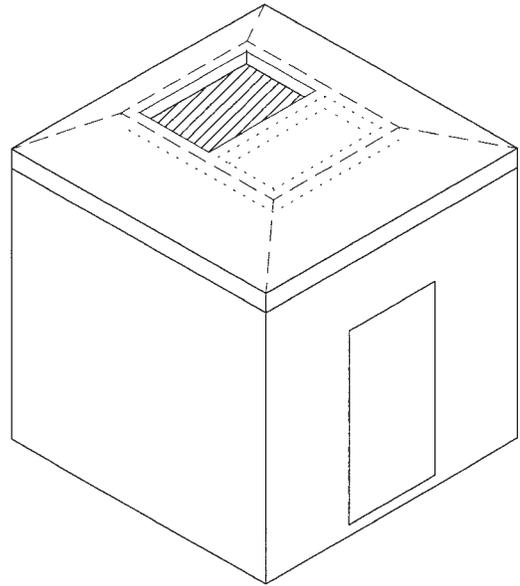

Figure 2. Roof membrane placed over curb.
- 3. Install the membrane onto the roof of the box and over the curb. Fasten to roof per panel manufacturer's instructions. The membrane material should be slit over the evaporator grill opening the flaps allowed to drape into the hole 2" - 4". (See Figure 2, page 7) Care should be taken during the membrane installation to prevent bunching or folding which could affect the gasket-to-curb sealing or trap rainwater adjacent to the curb.